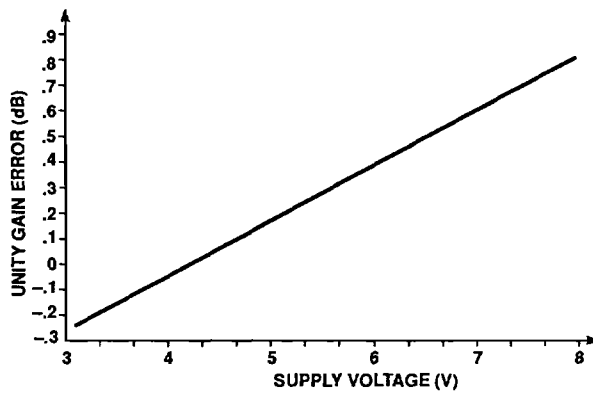

Figure 5. Unity Gain Error vs Supply Voltage
- Operation down to  $V_{CC} = 2V$  is possible, but performance is significantly reduced. See curve in Figure 5.
Figure 5 shows that the unity gain error remains small over a wide range of supply voltages. The unity gain error is important because it effects the tracking error. So, to achieve the best unity gain error, provide a power supply voltage of 4 to 5V to the NE575.